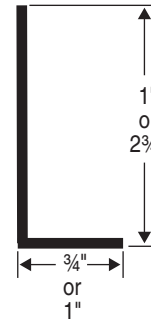

Figure 11
- ① "L" Angles come in 12'3" (3/4" x 1") or 16' (1" x 2 3/4") lengths and must be cut to the height required available. Measure and cut Clip and Closure extrusions to fit installation requirements (see Fig. 11).